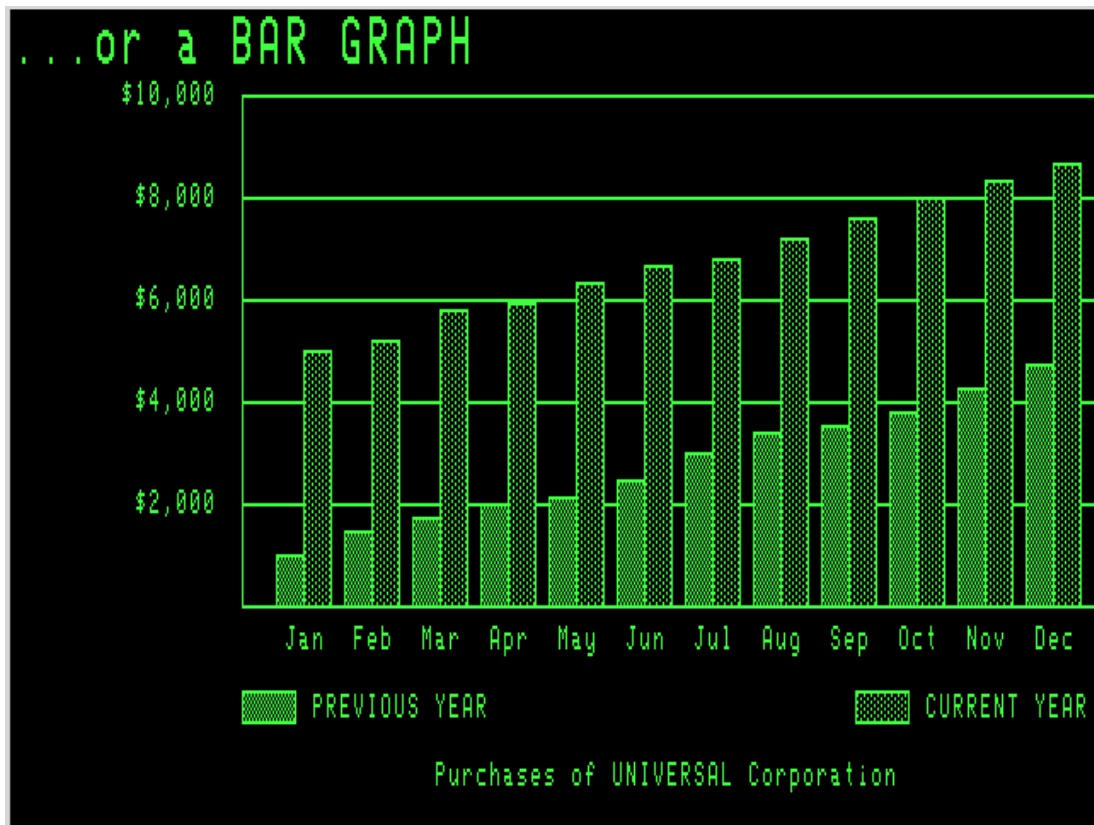

Fig. 6. DEMODIAG 2.
- Fig. 6, Page 12: 'DEMODIAG' Disk, 2. Demo Graphics**